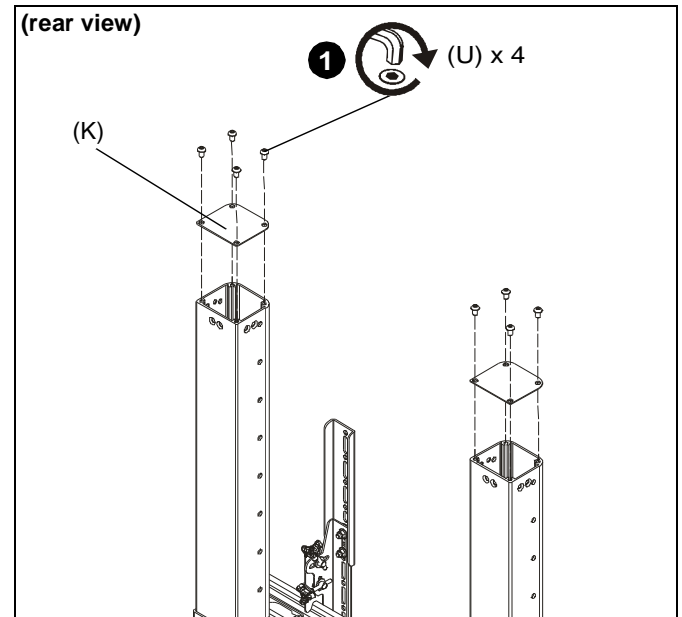

Figure 12
- 1. Use four 5/16-18 x 1/2" button head cap screws (U) to install each column cap (K) to each column. (See Figure 12)